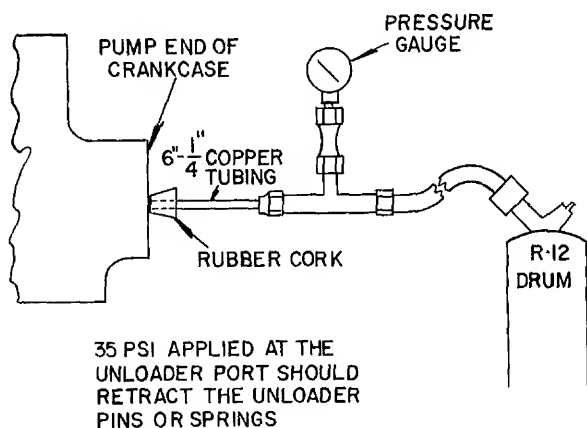

FIG. 23 - TESTING UNLOADER OPERATION
7. Make sure that the valve lifter pins operate freely. Check operation of the unloader. This can be done by removing the pump end main bearing assembly and applying pressure from a refrigerant drum. Fig. 23 is a suggested arrangement.